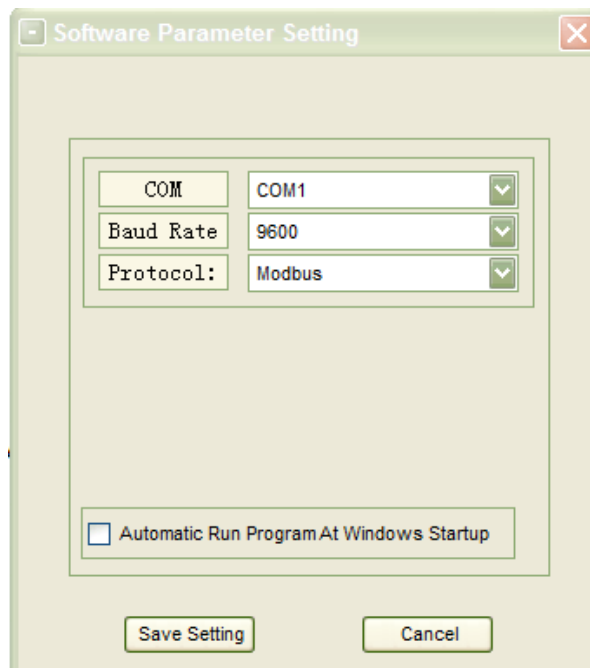

Fig. 5-23 Communication configuration parameters
- A window of “Software Parameter Setting” comes out as below (Fig. 5-23), COM choose according to the UPS , baud rate choose 9600, and protocol choose “Modbus”, then save this setting.